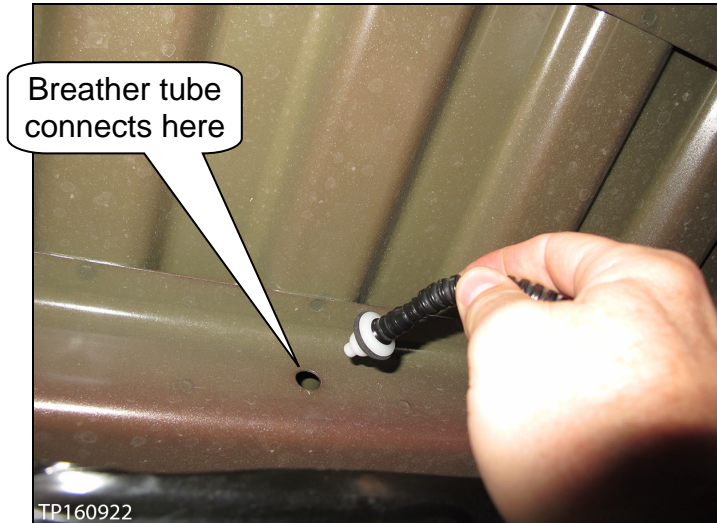

Figure 3
b. If the breather tube is not connected but can easily reach the bed rail connection hole and does NOT have a cap fitted to it (see Figure 3, 4, and 5):
b1. Connect the breather tube to the bed rail connection hole (see Figure 3).